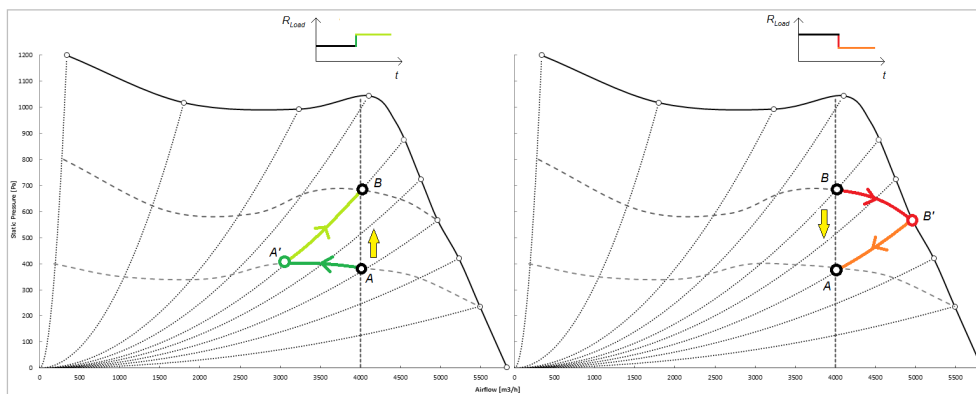

Fig.32 – Constant airflow behavior
The step response in a real system when  $R_{Load}$  is suddenly increased first and then suddenly decreased to the starting value is shown in figure 32. The Sensorless Constant Airflow Algorithm of the fan works in terms of Speed (SX) and Power (WX).